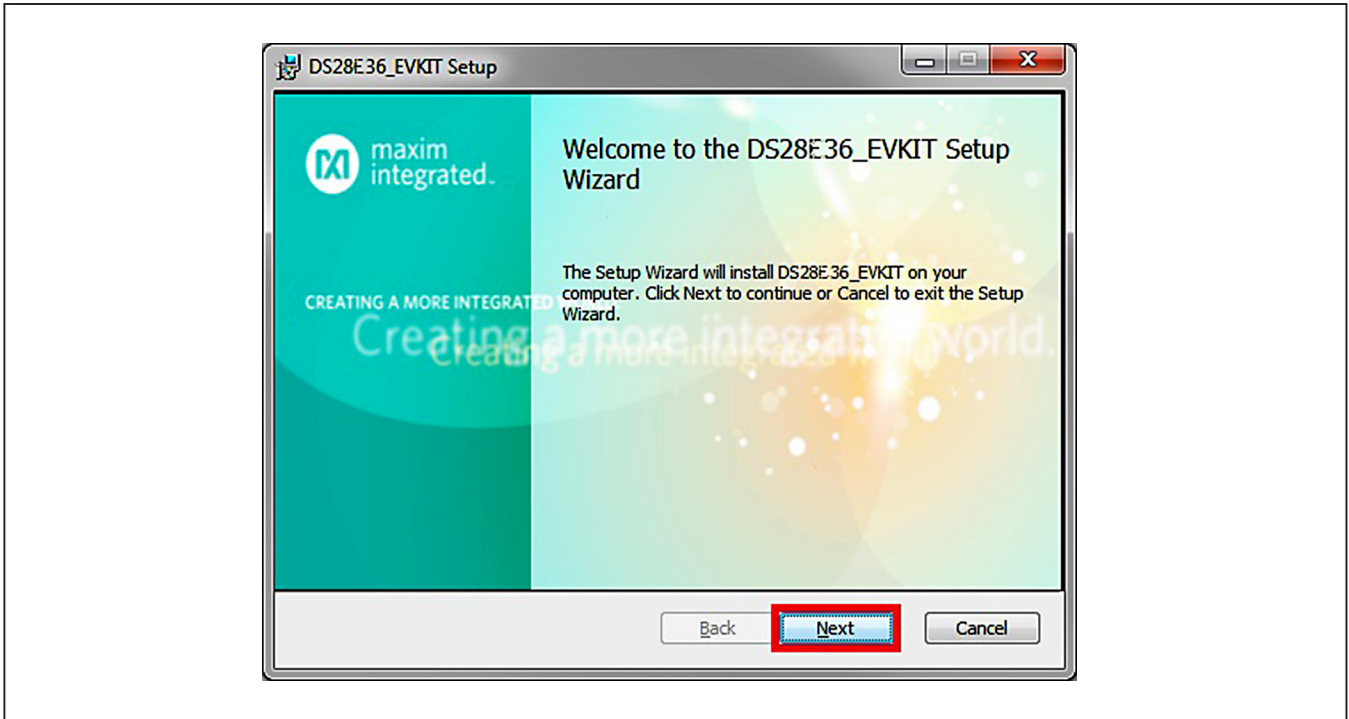

Figure 3. DS28E36 Setup Wizard
- 3) The Setup Wizard opens. Click on **Next**, as shown in Figure 3.